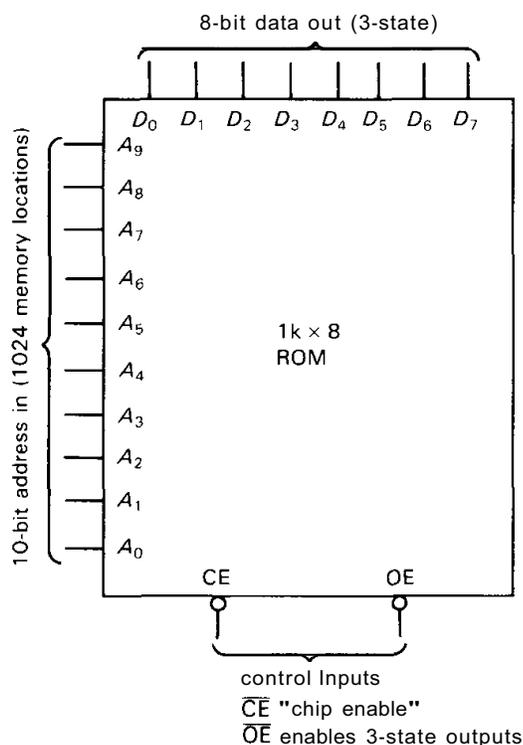

Figure 8.43
**ROM.** A ROM, or read-only memory, holds a bit pattern (typically 4 or 8 bits, parallel output) for each distinct address applied to its input. For example, a  $1\text{K} \times 8$  ROM gives eight output bits for each of 1024 input states, specified by a 10-bit input address (Fig. 8.43). Any combinational truth table can therefore be programmed into a ROM, provided there are enough input (address) lines. For example, the  $1\text{K} \times 8$  ROM above could be used to implement a 4-bit by 4-bit multiplier; in this case the limitation is the "width" (8 bits), not the "depth" (10 bits).